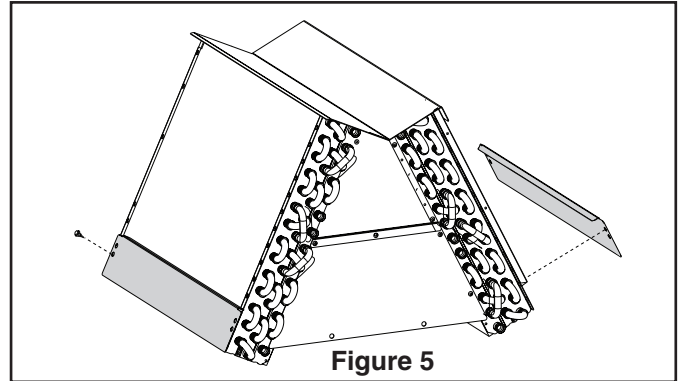

Figure 5
- For 4TXCC009DS and 4TXCD010DS only: The (2) outer water diverter baffles must also be removed for maximum efficiency.
- Remove the (2) outer water diverter baffles by removing the 5/16" hex head screws. See Figure 5.
- b. The (2) outer water diverter baffles must be removed for maximum efficiency.
- d. Remove the (2) outer water diverter baffles by removing the 5/16" hex head screws. See Figure 5.